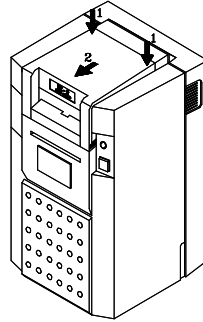

Fig. 3.1.1
2. Gently press down the top cover with your thumbs, and pull it toward you to remove the top cover. (See figure 3.1.1 & 3.1.2)